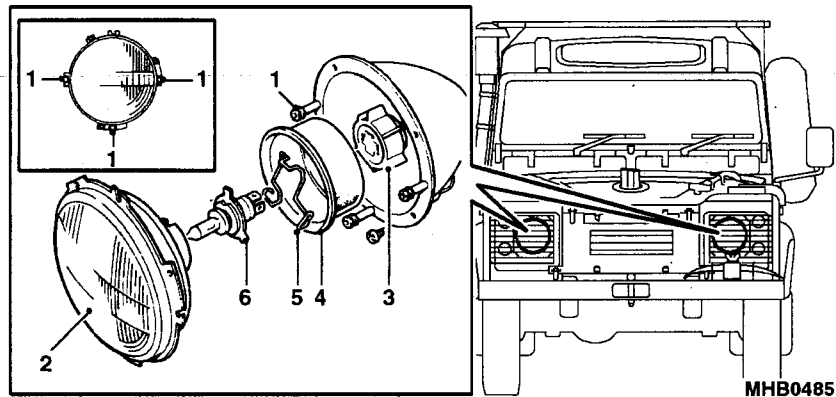

Fig 4 Headlights
- 7.3 Prise the headlight unit (Fig 4 (2)) from the headlight beam adjustment screws (1) and remove. The headlight lens can now be removed.